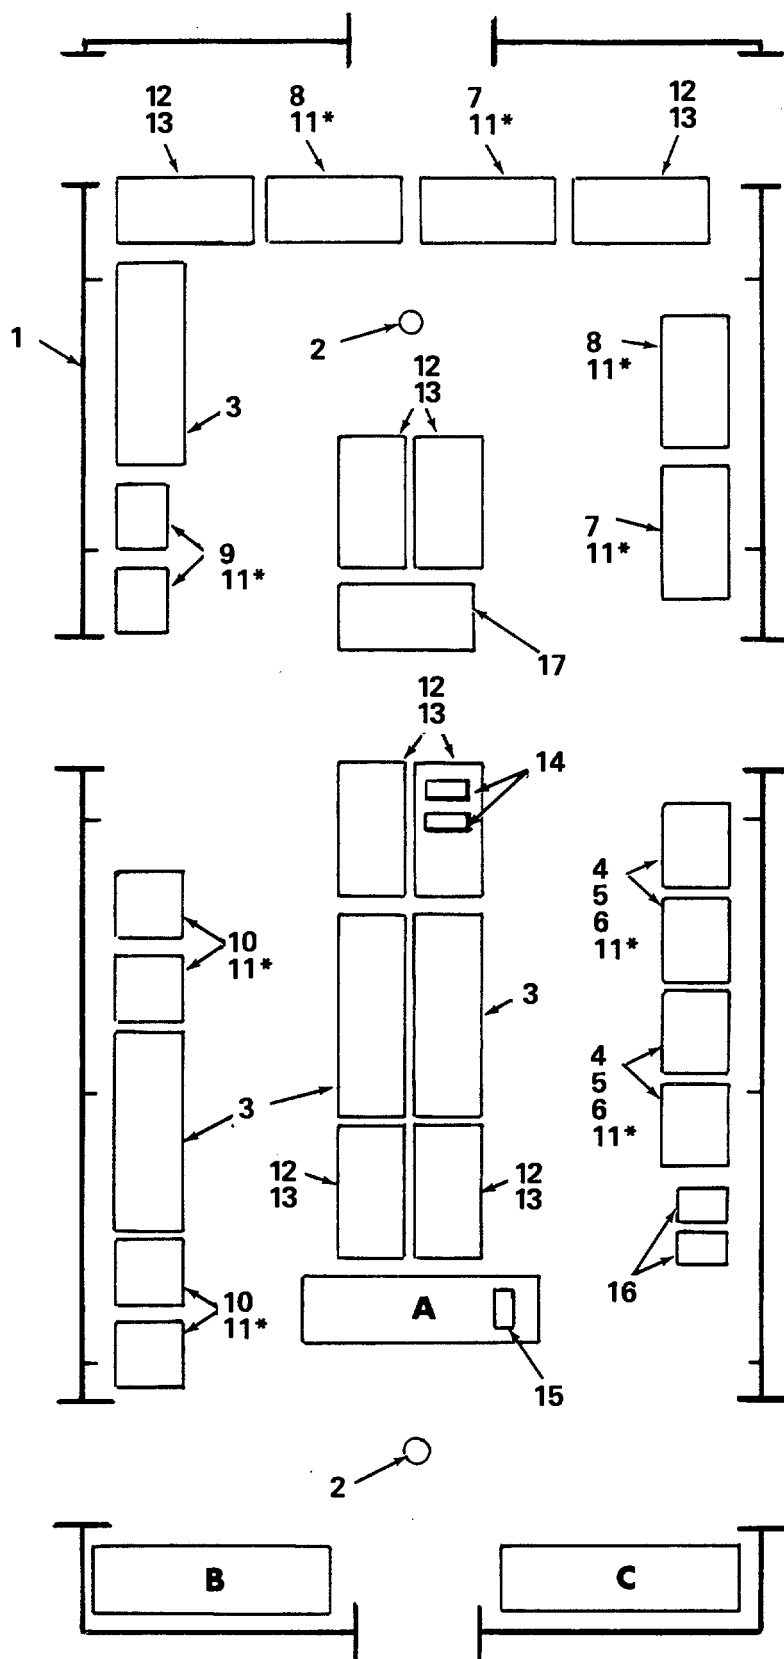

Figure 2-3. Modular Field Kitchen - Optional Configuration, Combat Support Hospital, Deployable Medical Systems.
(4) Deployable Medical Systems. An optional MFK configuration, 48 X 20 foot (14.64 X 6.1 meters), used by DEPMEDS' personnel in a combat support hospital is shown in Figure 2-3. Refer to Deployable Medical Systems User's Manual for instructions.